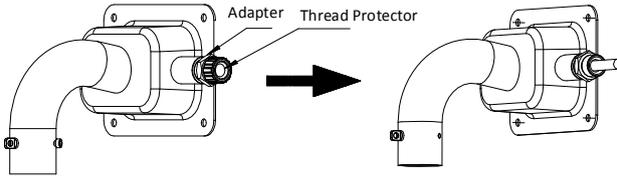

Figure 2-12 Seal the Cable Entry
2. Seal the cable entry by installing the protective steel tube on the adapter as shown in Figure 2-12.